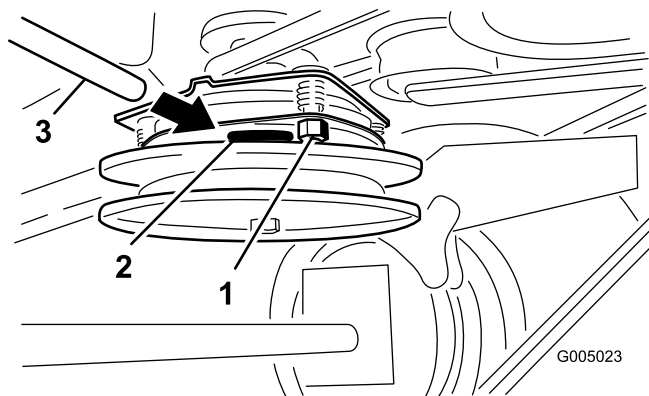

Figure 45
2. Tighten the lock nuts until there is slight binding on the feeler gauge but it can be moved easily within the air gap (Figure 45).